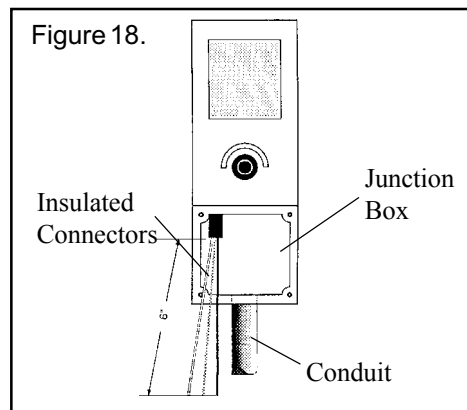

Figure 18.
- Pull cord out of the junction box and strip a six (6) inch section of the outer insulation jacket from the cord, see Figure 18.